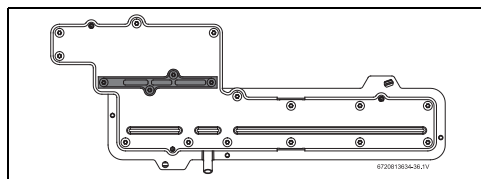

Fig. 47 Gas manifold
- ▶ Remove the four screws that retain the cover plate to the gas manifold, see fig. 47 (plate in grey color).